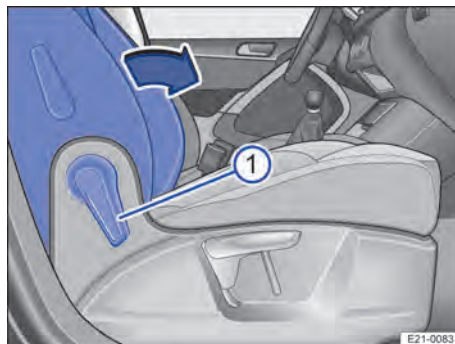

Fig. 61 Front passenger seat: folding the backrest forwards.
5. Pull the lever → Fig. 61 ① forwards to unlock the front passenger seat backrest.
6. Fold the front passenger seat backrest forwards in the direction of the arrow → Fig. 61 until it is horizontal.